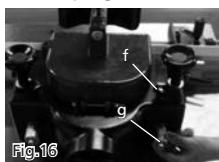

Fig.16
1. Loosen lock lever (Fig.16-F).
2. Adjust the position of the fence by turning the adjustment knob (G)